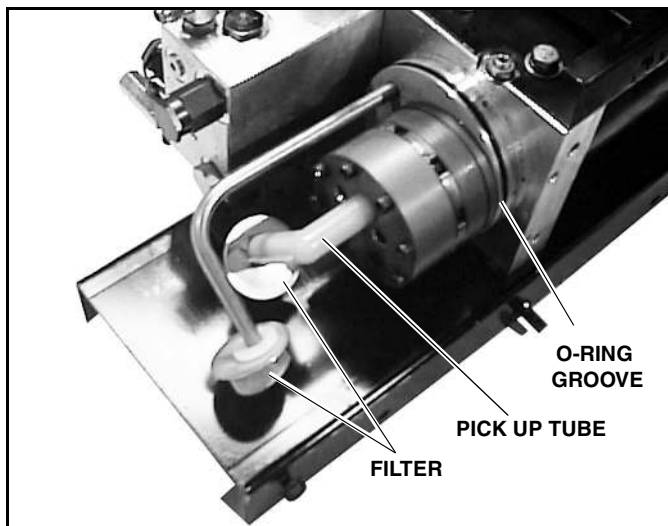

Figure 2-15
8. Visually check that the pickup tube and filter face down. (See Figure 2-15). If not, rotate the pickup tube until the tube and filter face down.